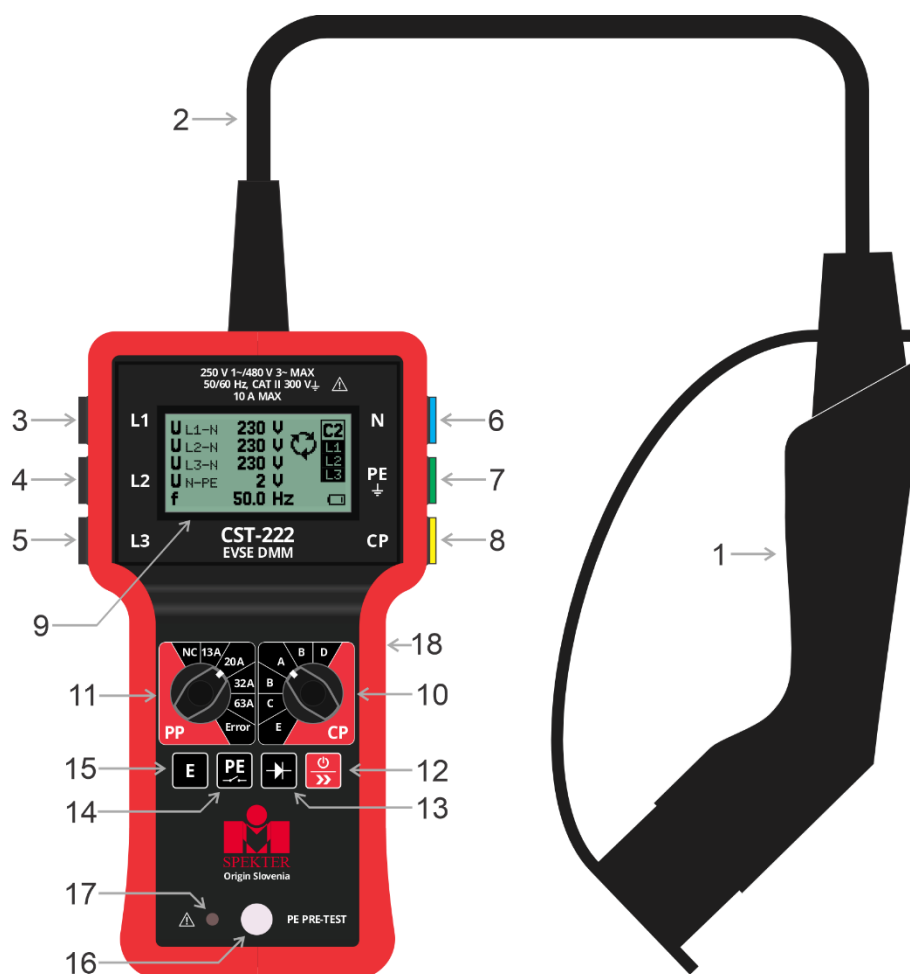

Figure 2: Operation elements and connectors, visible from the front.
2. Touch the PE PRE-TEST touch electrode (position 16 in Figure 2) with a bare finger and inspect PE PRE-TEST indicator (position 17 in Figure 2)